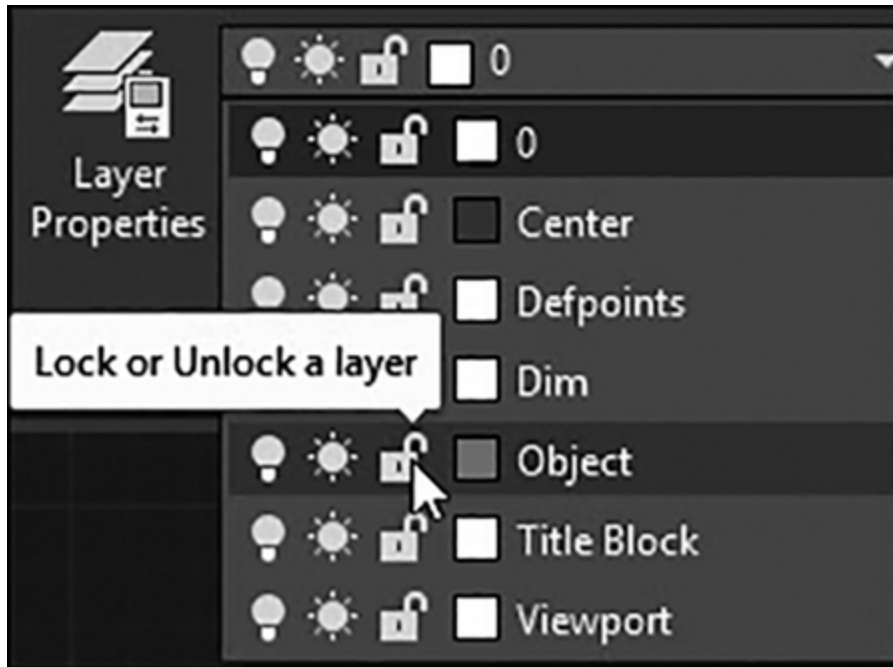

Figure 2-28
- 1 From the **Layer** drop-down list, click on the open-lock icon next to layer **Object** (see Figure 2-28). The open-lock icon will change to a closed lock. Pick anywhere in your drawing to close the **Layer** drop-down list.